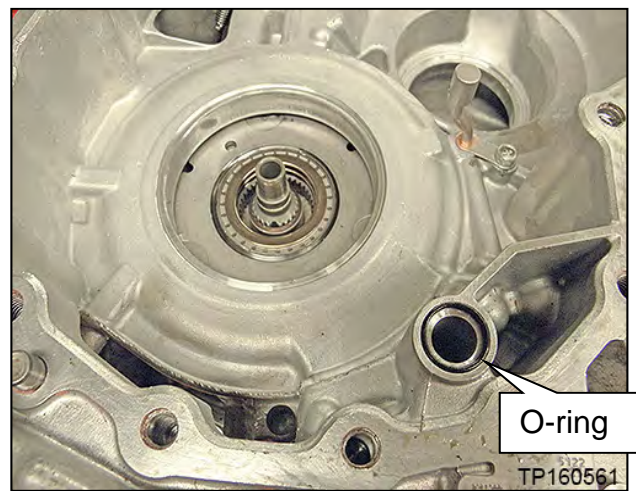

Figure 83
66. Replace the O-ring on the CVT case side with a new one from the **PARTS KITS REFERENCE TABLE**; discard the original O-ring (Figure 83).